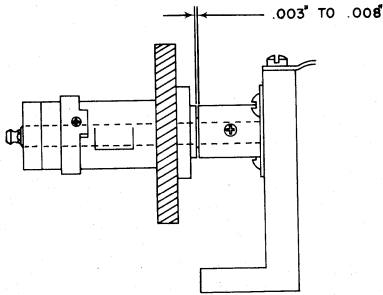

Figure 14
- Trip off a permutation bar with the translator cycled to a point where the restoring bail has caused the armature knock off and is pivoting back toward the eccentric stop. Have the clutch detent cam and the clutch collar set screws loose and position the clutch detent so there is .003" to .008" clearance between the translator gear and the spacer with the clutch parts tight against the detent (Figure 14).